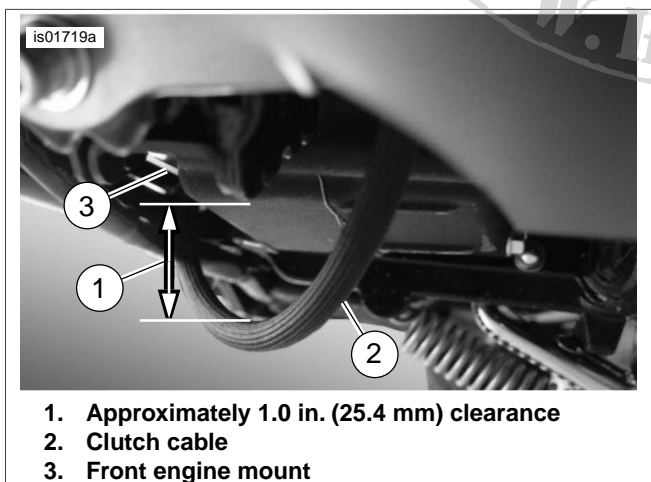

Figure 6. Clearance Between Clutch Cable and Front Engine Mount (2006-Later Dyna Models)
2. See Figure 6. Verify there is approximately 1.0 inch (25.4 mm) clearance between the cable (2) and the front engine mount (3).